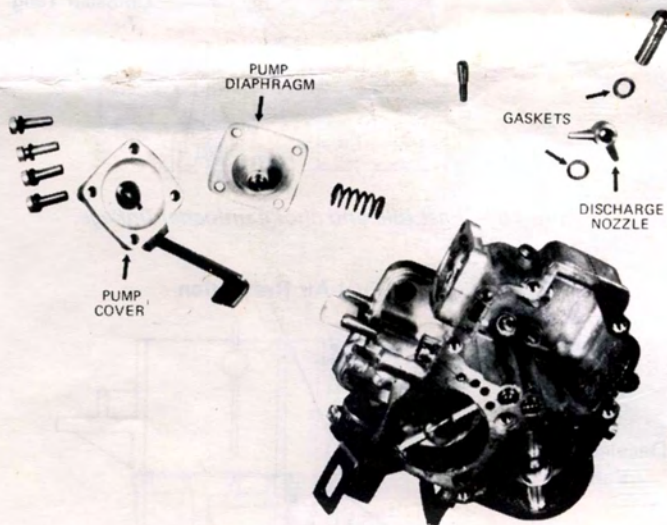

Figure 21 – Remove or install pump assembly.
3. Remove pump discharge valve assembly. (Fig. 21) Caution; Three types have been used. A. A cage valve assembly which cannot be disassembled. B. One steel ball retained by a pump discharge jet screw. C. Two steel balls, the second ball acts as a pump discharge ball weight. If you find two balls in the pump discharge passage **DON'T THINK IT'S A MISTAKE.**